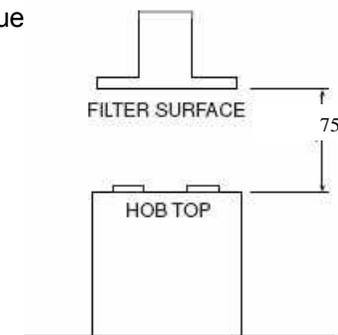

Fig. 1
- The distance between the bench top to the lower part of the hood must be 750mm (see fig.1)